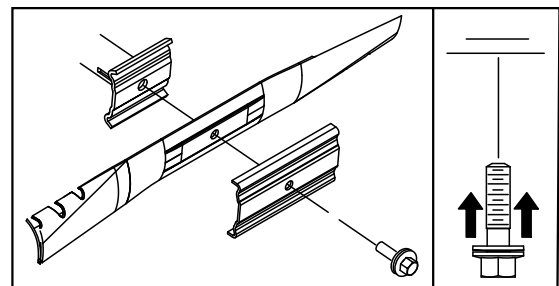

Figure 28
5. Install the new blade (turn the blade bolt clockwise) and all mounting hardware (Figure 28).